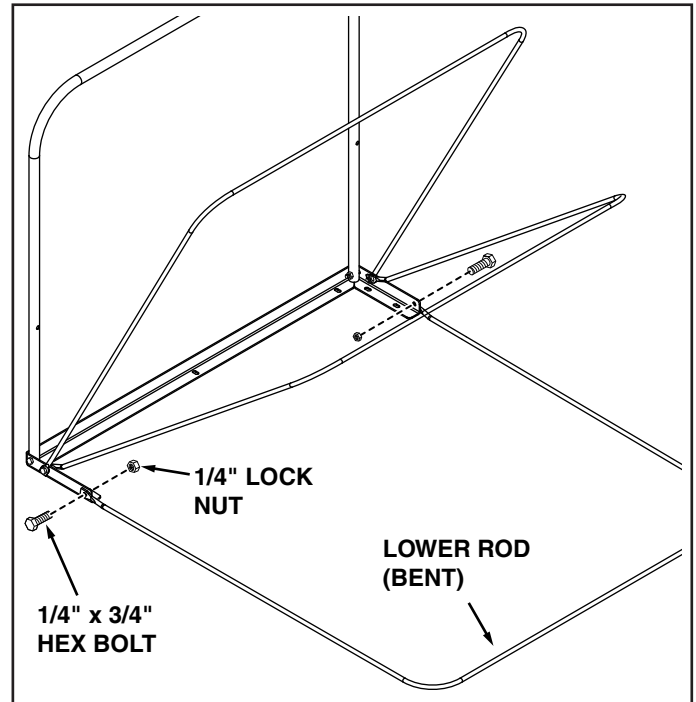

FIGURE 19
- Attach the last lower support rod to the **outside** of the top angle support using two 1/4" x 3/4" hex bolts and 1/4" lock nuts. **TIGHTEN, then back nut off until rods freely pivot.** See figure 19.